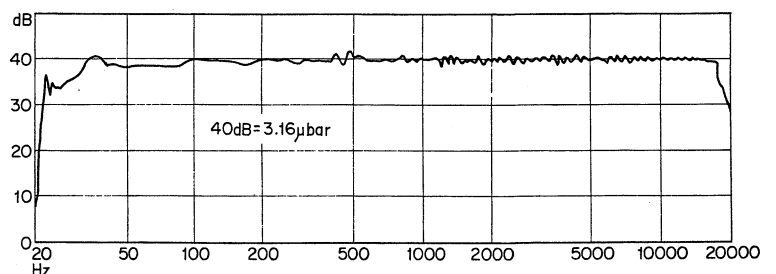

Fig. 4
KD-500 (550) employs a layer construction of resin concrete and plywood to assure wide vibration-proof performance that cannot be obtained from a single material. The characteristics of KD-500 (550) are shown in Fig. 4.